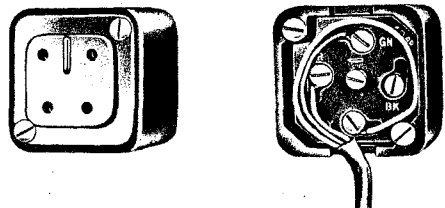

Fig. 12 — Installation of 404B Jack
- 6.01 Install 404B jack (Fig. 12) as follows:
1. Connect station wire to jack, and dress as shown in Fig. 12.